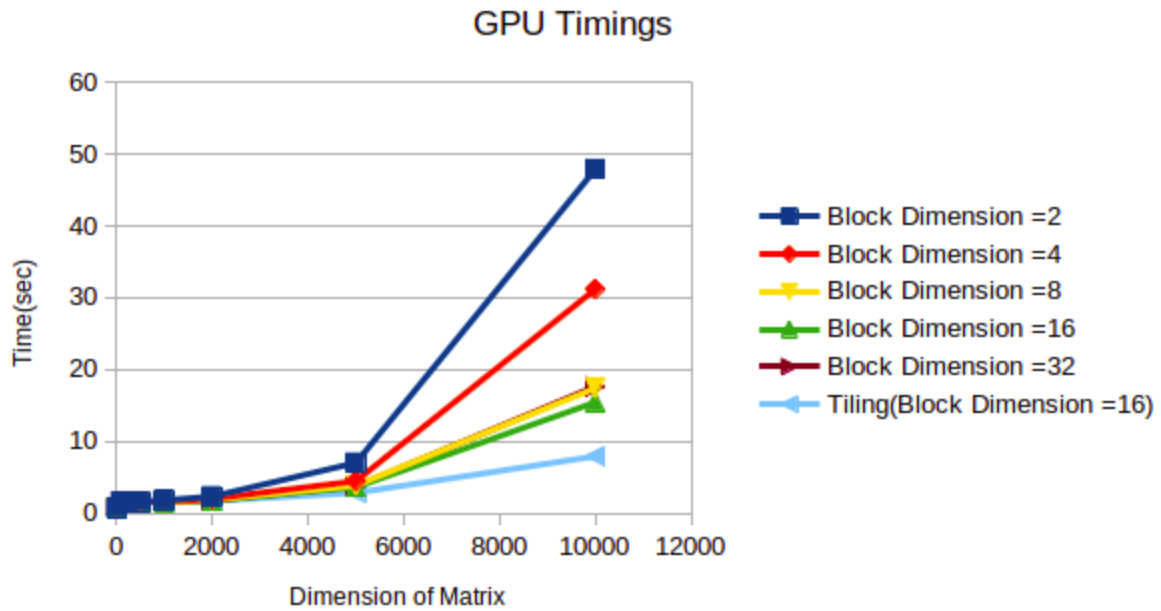

Figure -4
- As anticipated, tiling optimization takes less time to compute than approach-1 as shown in figure-4.